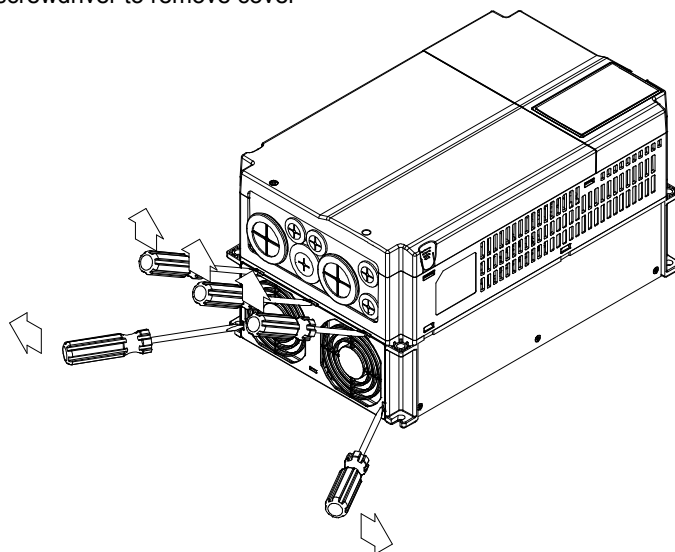

Figure 1
Step 1. (Figure 1) Use slotted screwdriver to remove cover